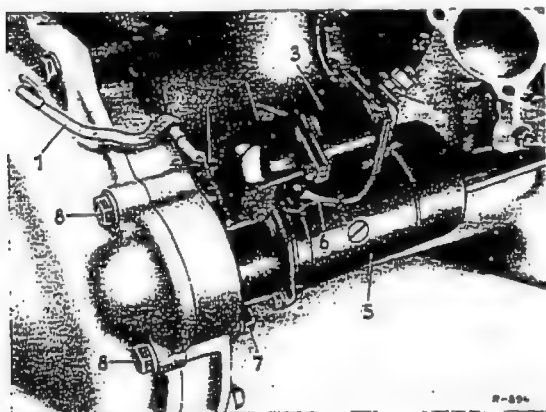

Fig. 15-2/1
2. Remove the battery cable 30 and cable 51 at the contact terminal (4) of the solenoid switch (Fig. 15-2/1).
3. Loosen and remove the cable (6) from the field coil to the solenoid switch (Fig. 15-2/1).
4. Remove the two hexagon screws (2) at the drive bearing cover flange.